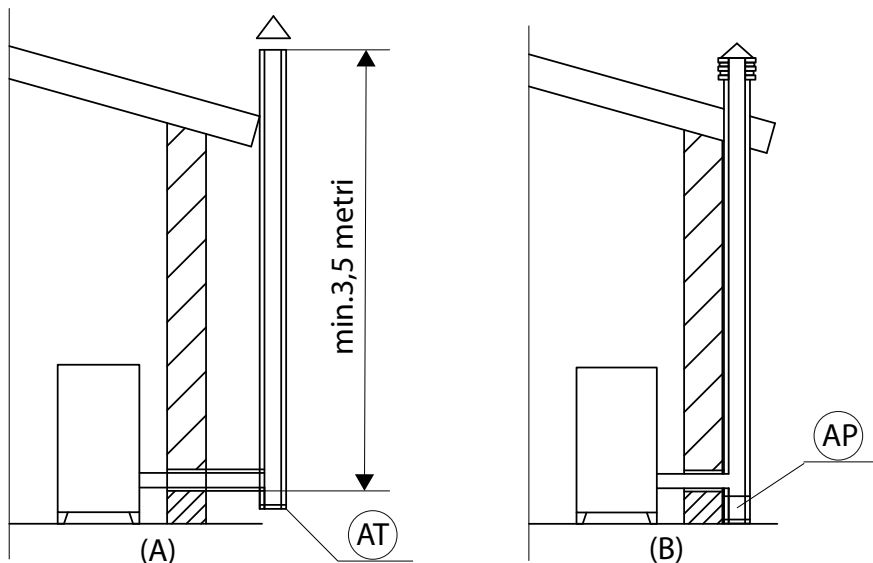

FIGURE 1 - SMOKE FLUE
A simple air shaft in cement must be suitably lined. In both solutions there must be an inspection cap (AT) and/or inspection hatch (AP) - FIG.1.